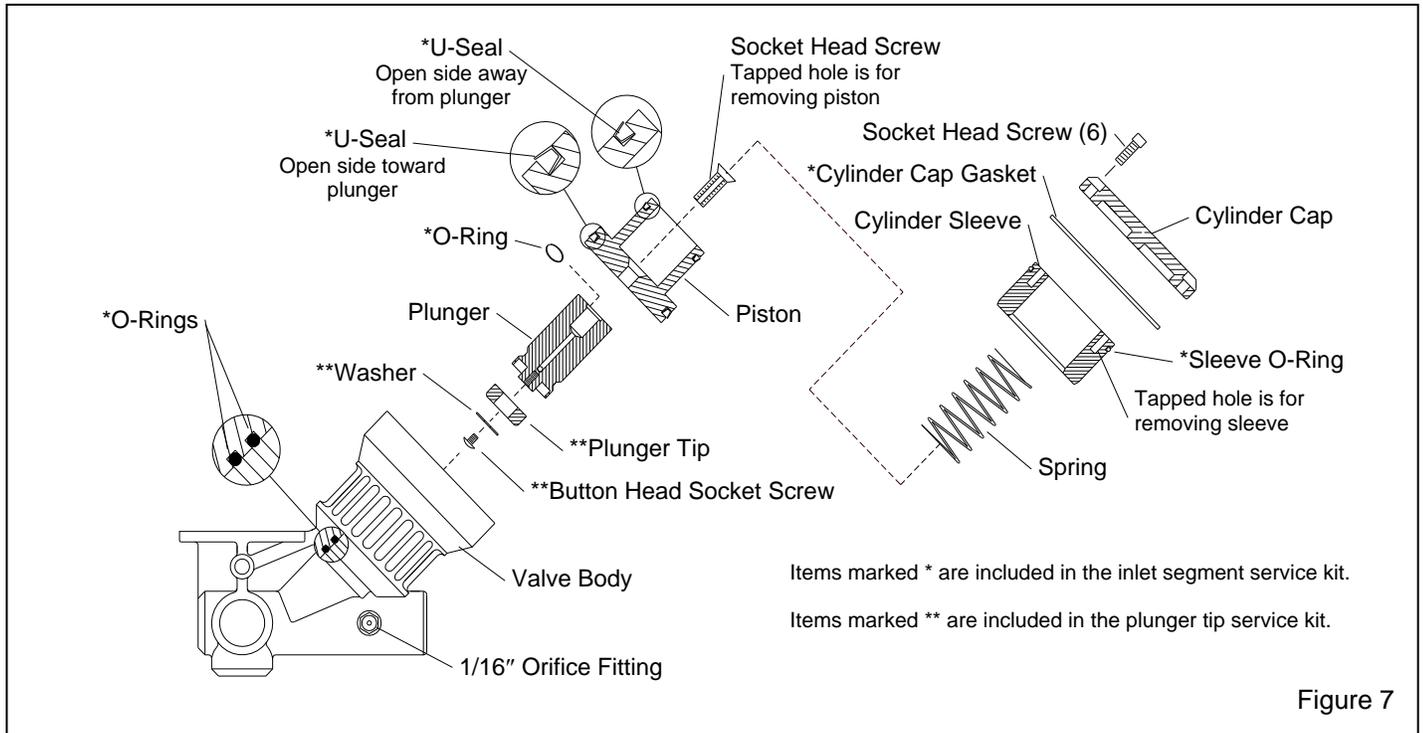

Figure 7
6.3 Millennium Valve Inlet Segment, Figure 7.
6.3.10 Place the u-seals into the grooves on the piston, the open side of the large seal faces the plunger, and the open side of the small one faces away from the plunger, as shown in Figure 7.
6.3.15 If fittings on the body were removed, make sure the 1/16" orifice fitting is threaded into the port, as shown in Figure 7.